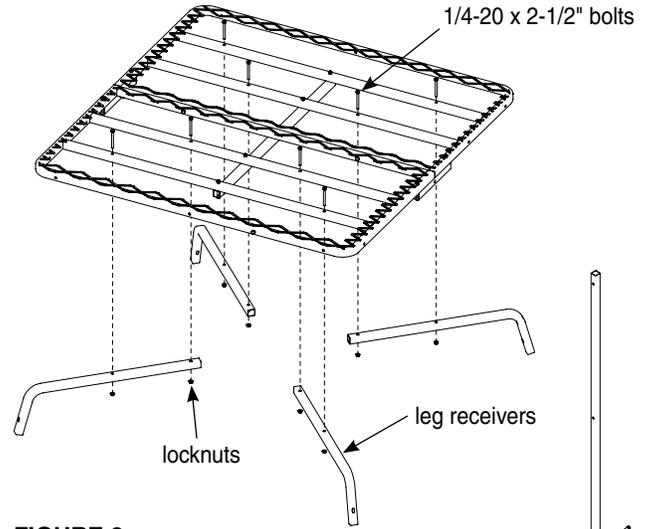

FIGURE 2
- Attach (4) leg receivers (TWR25) to the bottom four corners of platform using (8) provided 1/4-20 x 2-1/2" bolts and locknuts. **SEE FIGURE 2.**